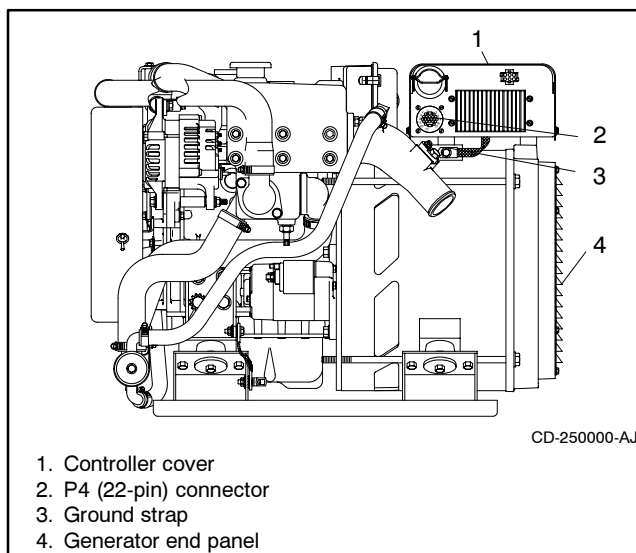

Figure 9-1 Covers
1. Remove the end panel from the alternator end of the generator set. See Figure 9-1.